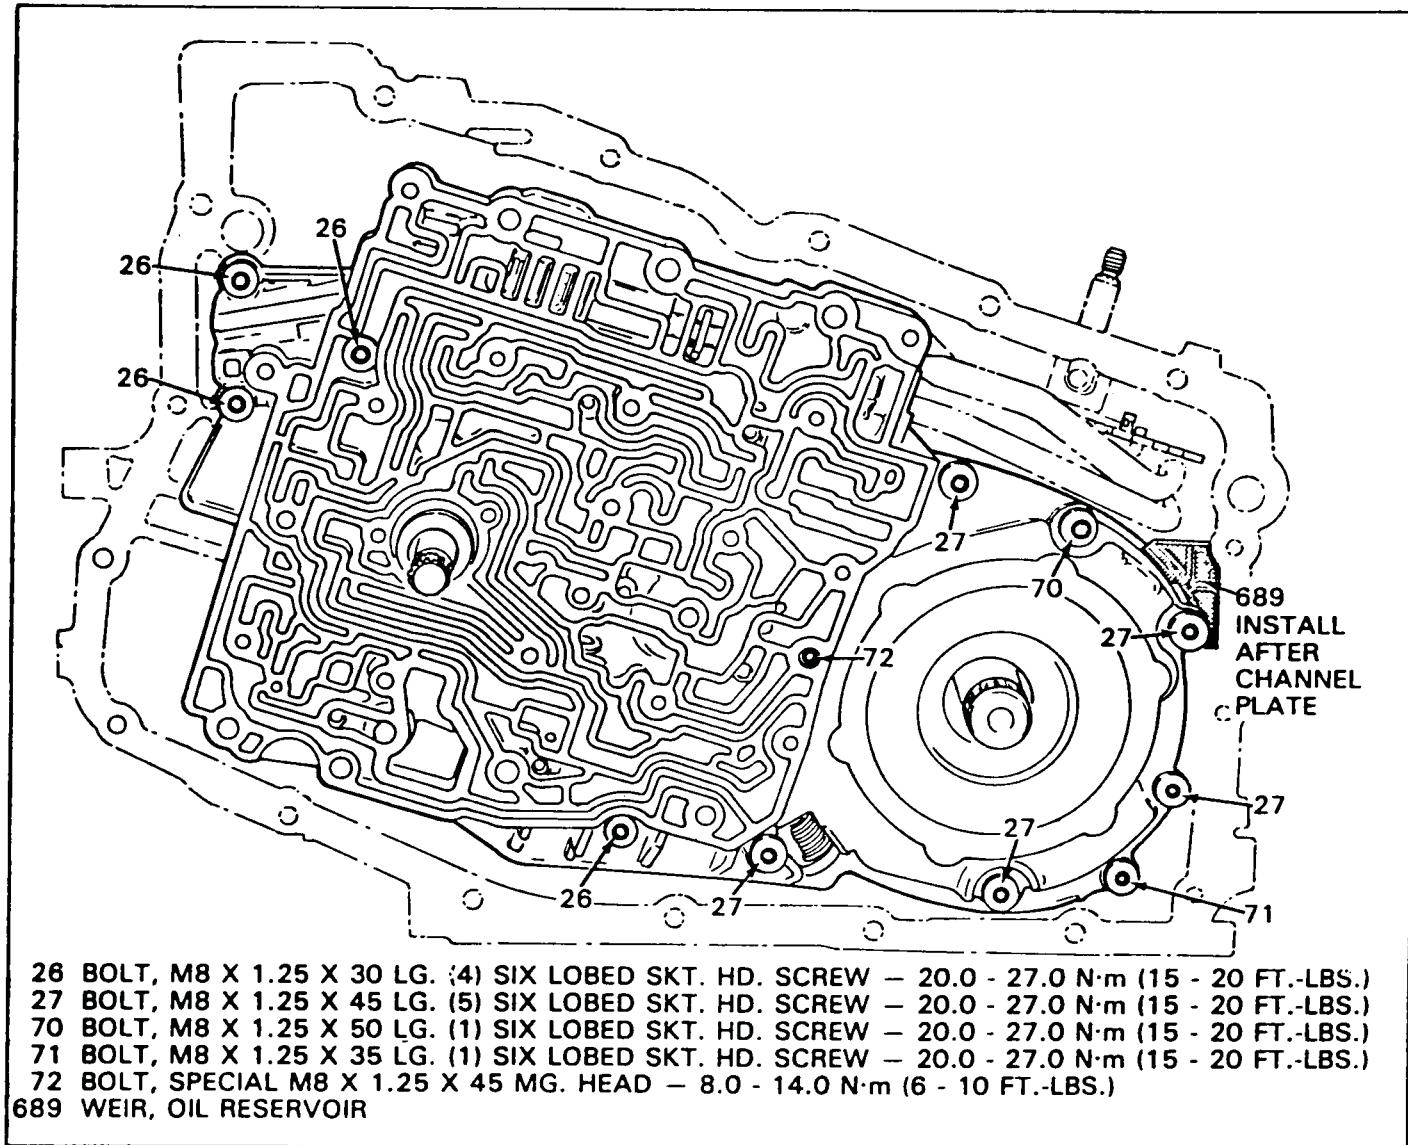

Figure 91
14. Install bolts in the proper locations, and torque as specified in Figure 91.
16. Install oil weir, see Figure 91.